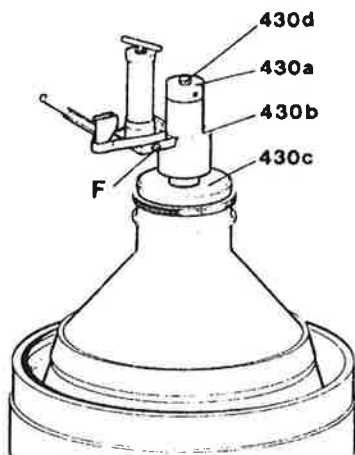

Fig. 4/3c
7) **Fig. 4/3a:** Lightly grease guide surfaces of sliding piston and of bowl bottom with the supplied lubricating paste. Place pressure piece 428a onto hub of bowl bottom. Make sure that arresting pins of bowl bottom fit into holes of pressure piece. Then install the sliding piston with the aid of jack 428. The "O" marks must be aligned. By turning jackscrew "A" counter-clockwise, lower the sliding piston slowly until the arresting pins of the bowl bottom catch into the holes of the sliding piston.